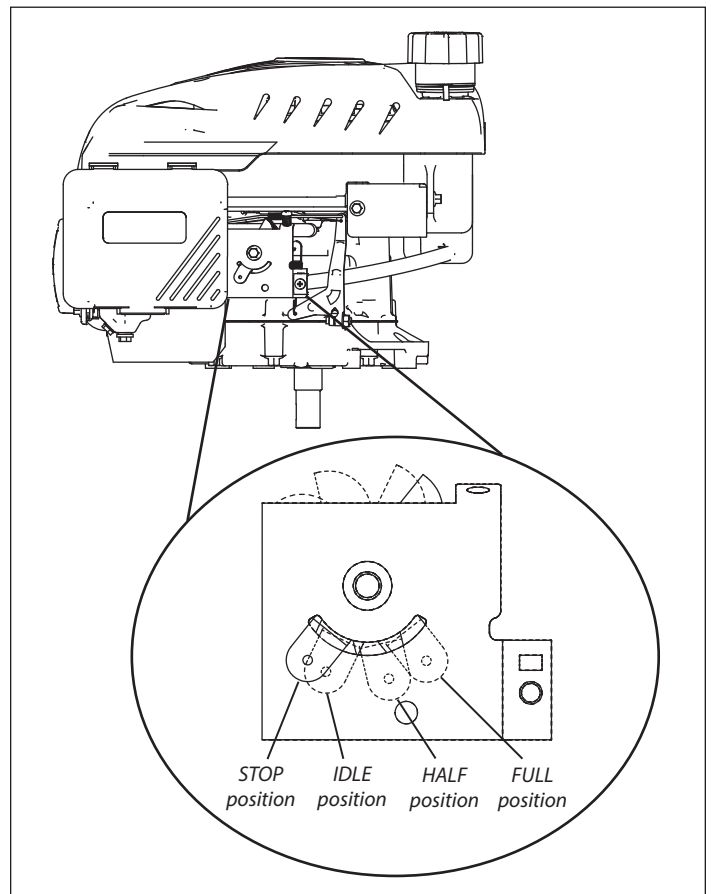

FIGURE 4: Throttle positions
5. Move throttle between the "HALF" and "FULL" position. **SEE FIGURE 4**
7. After engine begins operating, move throttle lever to "IDLE" position (**SEE FIGURE 4**). Run engine for 30 to 45 seconds at "IDLE" position until engine warms up.
8. After starting the engine, slowly move the throttle control lever from the "IDLE" position to desired speed as the engine warms up. **SEE FIGURE 4**
2. Move throttle to "STOP" position. **SEE FIGURE 4**